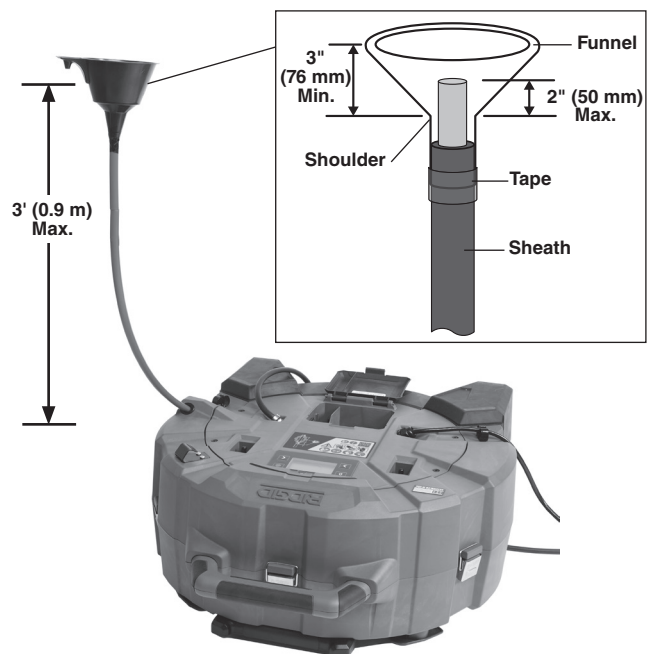

Figure 18 – Cable Lubrication Set Up
For lubrication, a plastic funnel with a distance from the shoulder to the top of the funnel of at least 3" (76 mm) is required (See Figure 18).
5. With no attachment installed, hold cable end away from your body or others. Run machine in FORWARD for 5 seconds to minimize exposed cable. Place switch in OFF(O) position and unplug machine/remove battery.
6. Fully insert cable end into funnel spout so that the sheath touches the funnel. Check to see how much cable extends into the funnel. No more than 2" (50 mm) of cable should extend past the shoulder of the funnel (see Figure 18) to reduce the risk of cable whipping and lubricant whipping. If the cable extends too far into the funnel an additional piece of sheath can be cut and taped to the cable sheath to properly space the end of the cable in the funnel.
8. Secure the cable end up to 3' (0.9 m) above the machine, directly routing the cable into the drum. Excessive amounts of cable out of the drum and laying on the floor can make lubrication harder and take more time. See Figure 18. Confirm that the setup is stable and secure and will not move or fall when the machine is turned on. Do not pinch or restrict the sheath on the cable.